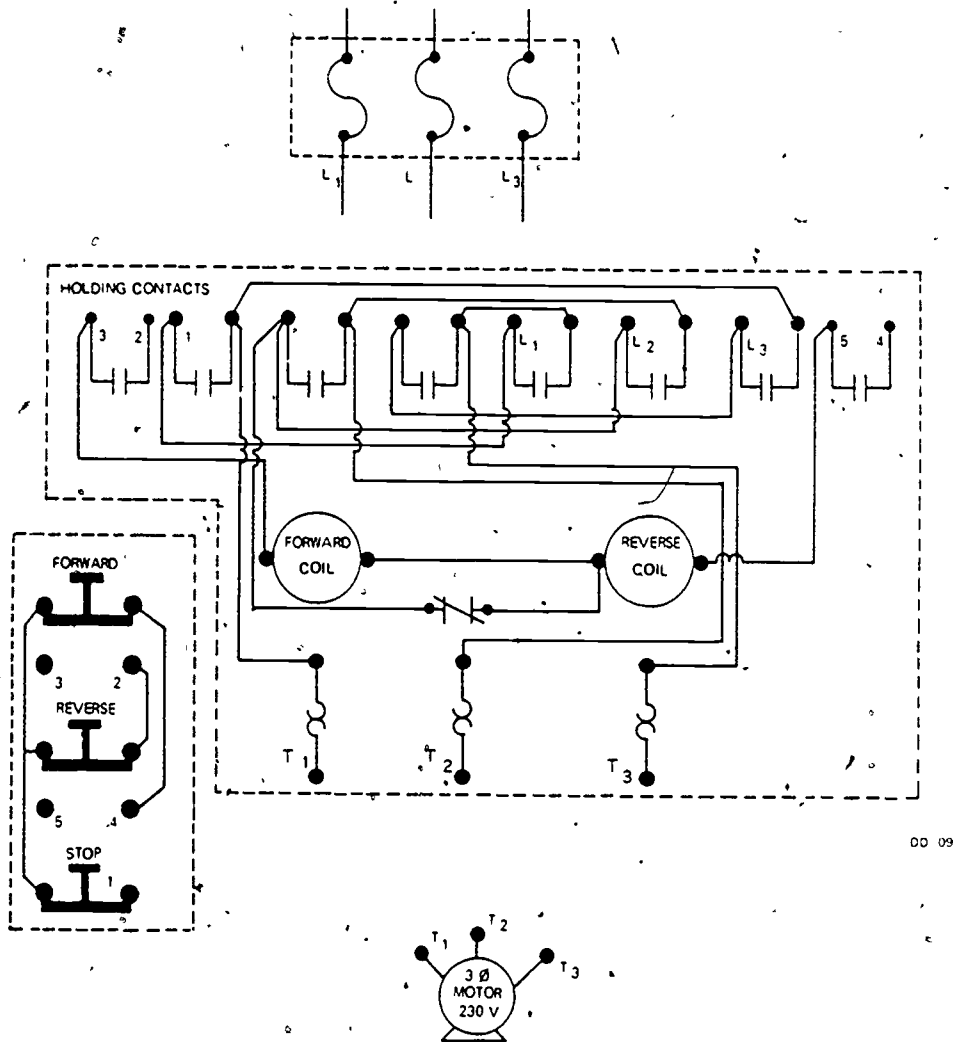

Figure 20. Connecting a Forward-Reverse Controller
Step 1: Complete the following diagram, figure 20.